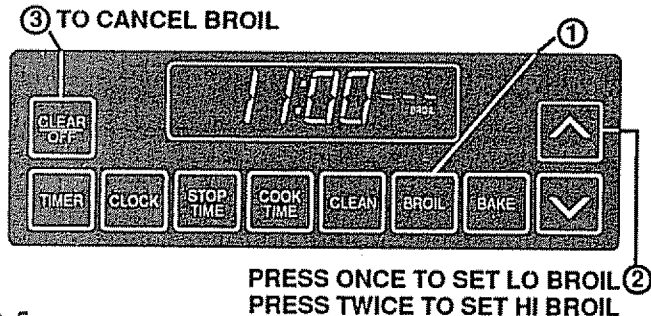

FIG. 5
1. Press BROIL. "BROIL" will flash and (---) will appear in the display. See Fig. 5.